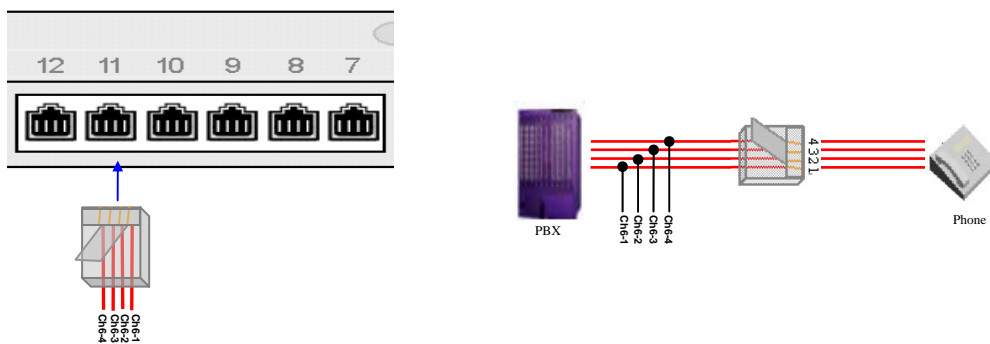

Figure 2-16
- 2) PHILIPS-4W and ISDN digital phones: Just follow the one-to-one relationship as shown in Figure 2-16 below to perform a parallel connection.